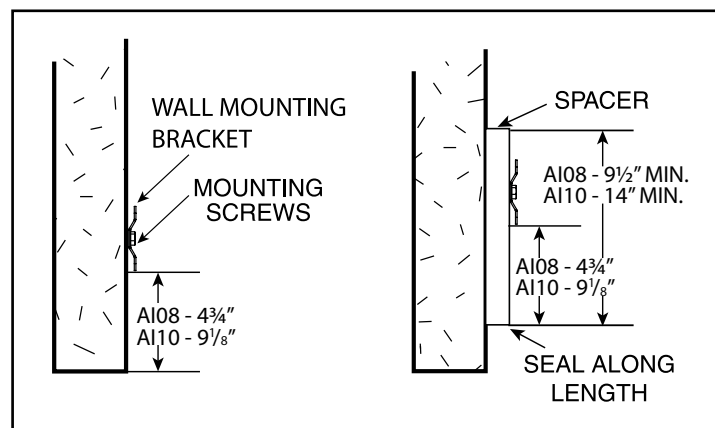

Figure 3 - Wall Mounting Location
- B. For optimum performance, the bottom of the air curtain (discharge nozzle) should be no more than 1" above the top of the door opening with the air curtain(s) mounted flush to the wall. If the air curtain must be mounted higher, it must be spaced out from the wall 3/8" for every inch the air curtain is above the door opening. **See Figure 3.** For optimum protection, any void between the air curtain and the wall should be sealed along the full length of the air curtain.
1. Position one wall mounting bracket over the door opening as shown in **Figure 3**. The bracket should be centered over the door opening. **NOTE:** For units longer than 120", install two wall mounting brackets in tandem across the door opening.